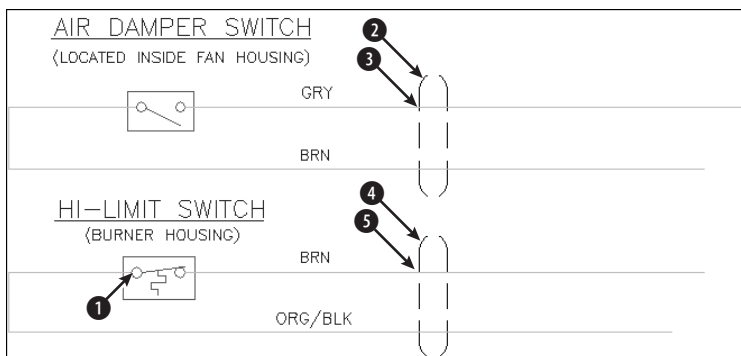

Figure 18-12: The electrical schematic has several symbols that would be useful as blocks.
2. Save the file as `ab18-04.dwg` in your *AutoCAD Bible* folder. This is a portion of an electrical schematic, as shown in Figure 18-12. OSNAP should be on. Set running object snaps for endpoint, midpoint, quadrant, and intersection.
3. Choose **Make Block** from the Draw toolbar. In the Name text box of the Block Definition dialog box, type **hl switch**. Choose **Select Objects**. Use a selection window to select the entire hi-limit switch box (not including the text labels). Right-click to end selection. Choose **Pick point** in the Base point section of the dialog box. Use the **Quadrant** object snap to pick the left quadrant of the left circle in the switch, at ❶ in Figure 18-12. Choose **Retain** in the Objects section. Click **OK**. The objects in this block were created on the **Object** layer, which is red with a continuous linetype. The color, linetype, and lineweight are set to **ByLayer**.
6. Use a selection window to select the top conduit symbol at 2 in Figure 18-12 (it is four objects). (It is currently on the Conduit layer, which is black and has a linetype of Hidden2.) Use the Color Control drop-down list box to set the color to green. Use the Linetype Control drop-down list box to set the linetype to Hidden2. Choose Make Block from the Draw toolbar. In the Name text box, type **top conduit**. The dialog box tells you that four objects are selected. Choose Pick point. Use the Intersection object snap to pick 3. Click OK. The conduit appears green with the Hidden2 linetype.